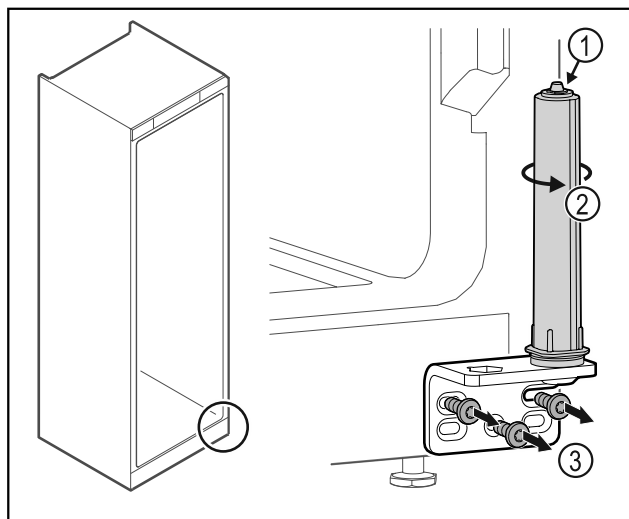

Fig. 21
- Do not disassemble the door closing system Fig. 21 (1).
- Turn the closing system Fig. 21 (2) until it clicks.
- Unscrew the hinge Fig. 21 (3).